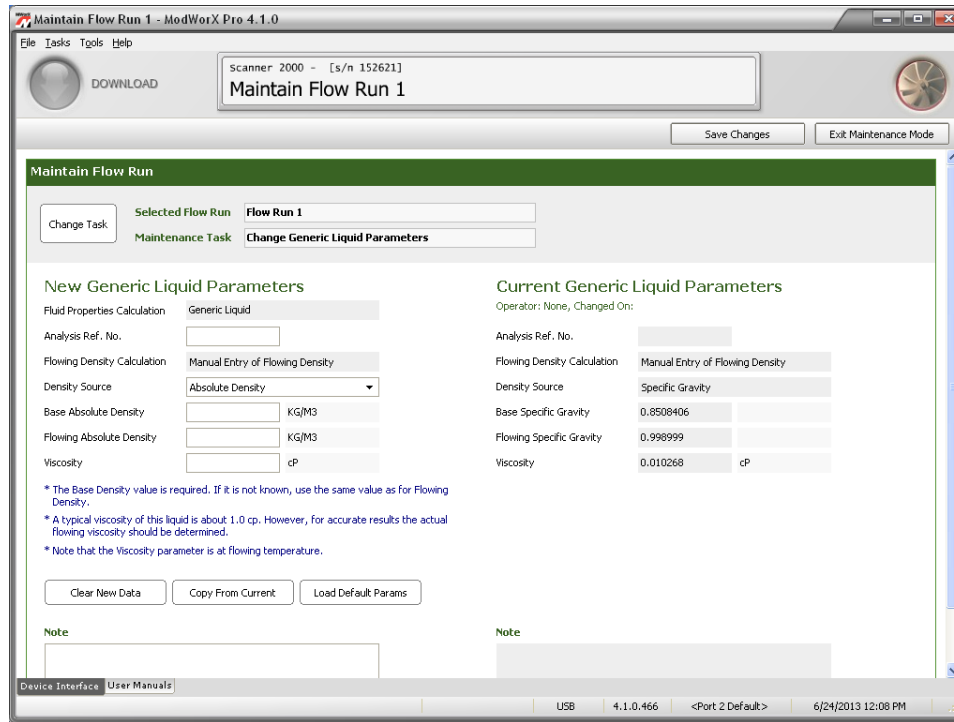

Figure 9.16
- b. Click **OK** to save the settings and return to the Maintain Flow Run screen (Figure 9.16, page 142).